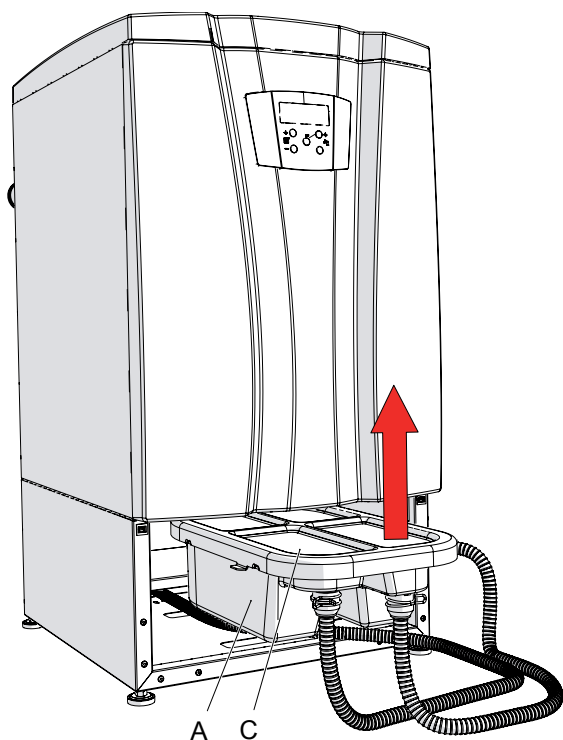

Figure 16-11 - Condensate trap and neutralizing box removing
- 3.- Open cover "C" (Figure 16-11) in the upper direction;